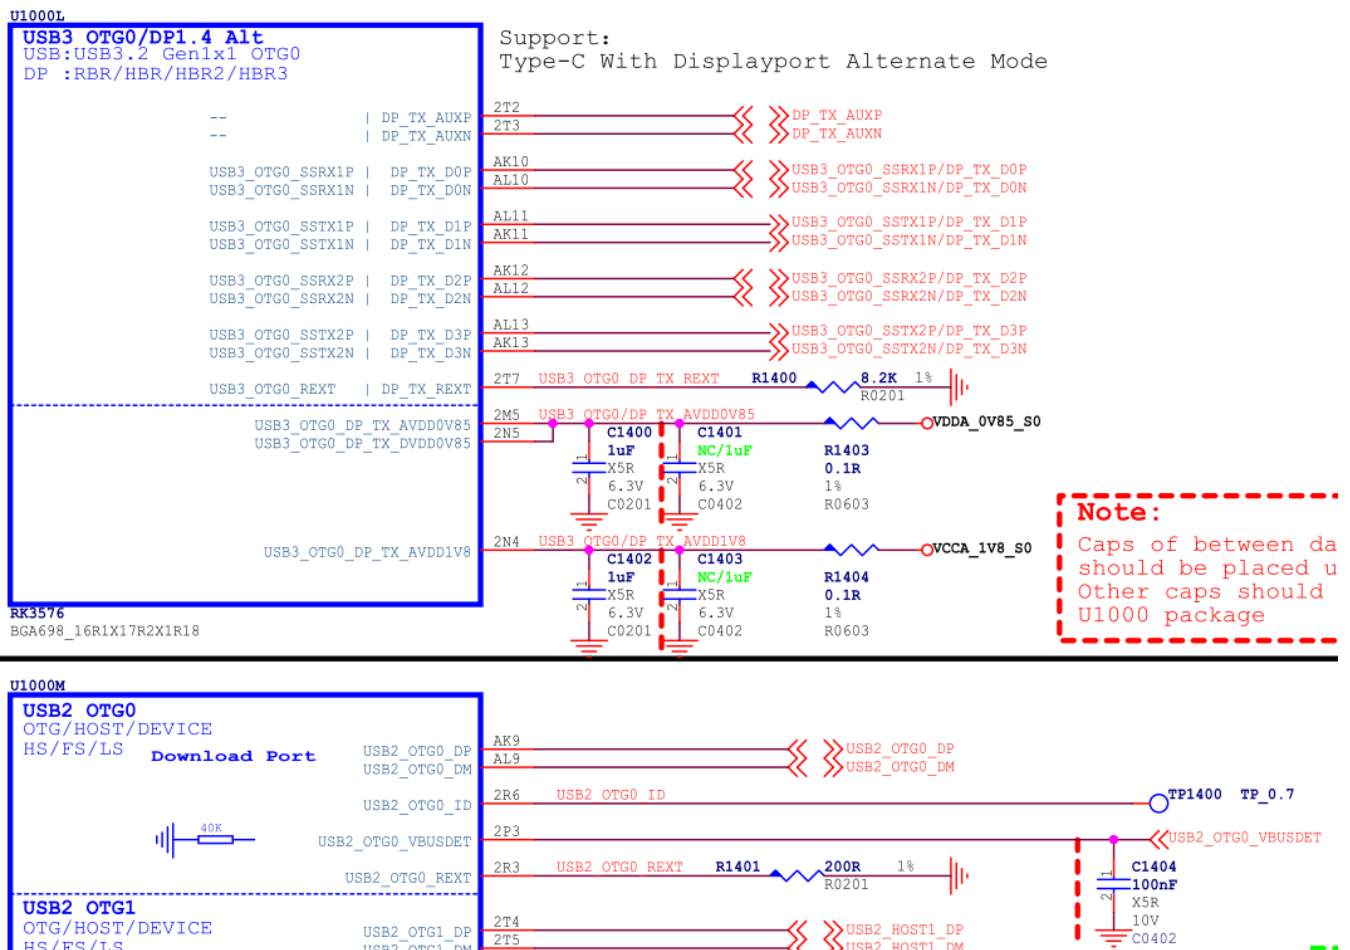
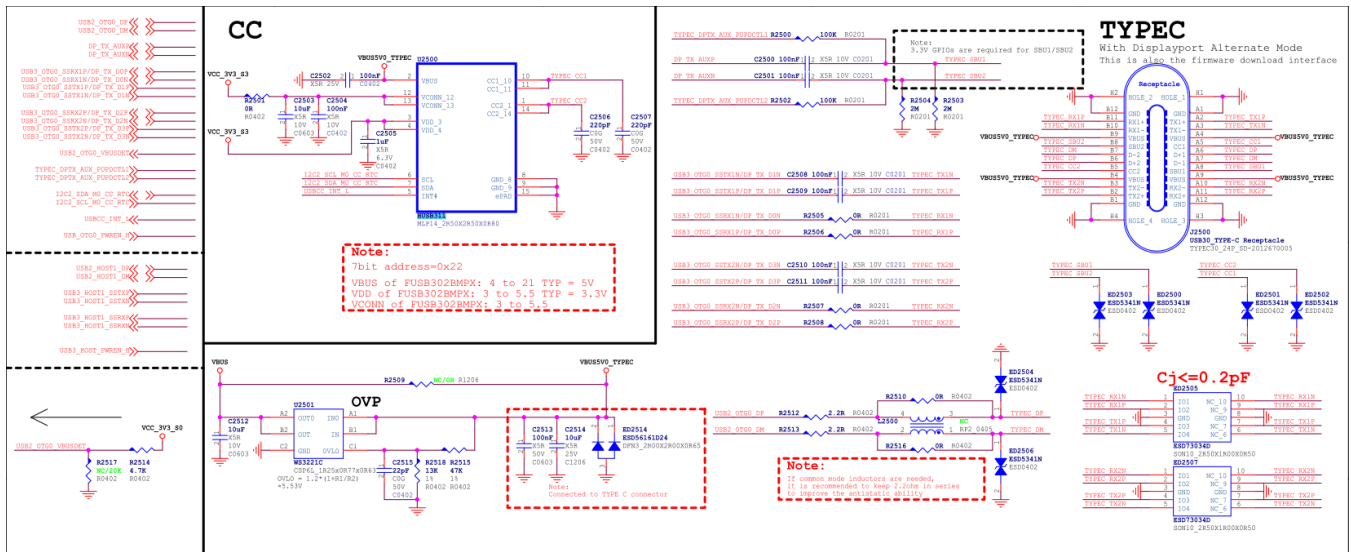

Figure 8 RK3576 Type-C Circuit
Figure 9 RK3576 Type-C Interface
2. To support high-voltage charging functions while reducing the risk of hardware circuitry, USB2\\_OTG0\\_VBUSDET should not be connected to the VBUS of the Type-C interface, just fixedly pulled up to 3.3V (as shown in Figure 8 and Figure 9, USB2\_OTG0\_VBUSDET connected to VCC\_3V3\_S0), but must not be left floating;
4. TYPEC\_SBU1/TYPEC0\_SBU2 is only used for AUX communication in DP Alternate Mode. According to the protocol requirements of AUX, the SBU1/SBU2 should be pulled up to the corresponding level based on the front and back insertion of the Type-C. Since the RK3576 chip does not implement the automatic pull-up of SBU1/SBU2 internally, it is required to add two GPIO controls externally in the hardware circuit (corresponding to TYPEC\_SBU1/TYPEC\_SBU2 in Figure 9). There is no requirement for the default pull-up and pull-down method of GPIO, any GPIO can be chosen. In software, the properties `sbu1-dc-gpios` and `sbu2-dc-gpios` of the `usbdp_phy` node need to be modified for adaptation;